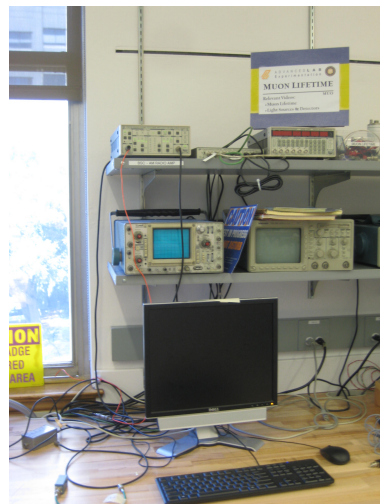

Figure 7: Front view of the data acquisition system for the muon lifetime experiment in LeConte 286. See larger image here
The electrical signal is sent through an RG-58 coaxial cable to data acquisition system in LeConte 286 (Figure 7). The pulses are amplified with a SR445A preamplifier feeding into a digitizer installed in a computer which works together with a LabVIEW program as: (1) an oscilloscope, (2) a differential detector logic system.